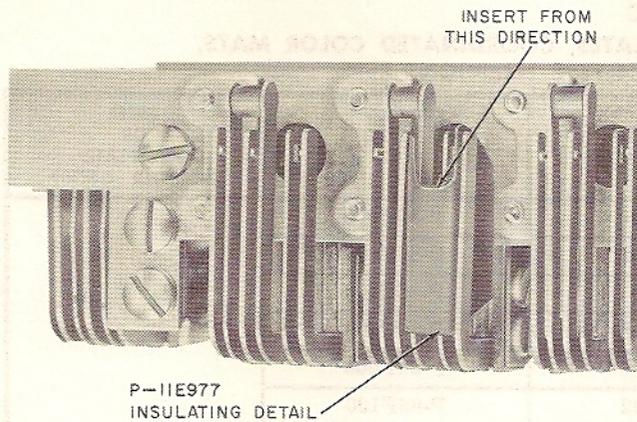

Fig. 6 — Position of P-11E977 Insulating Detail When Converting Pickup Button of a 598- or 599-Type Key To Signaling
**3.02** When converting a line pickup key to signaling (nonlocking), remove P-10E837 screw from plunger shaft and slide a P-11E977 insulating detail squared end first, between the contacts of the spring pile-up adjacent to the key plunger (Fig. 6).